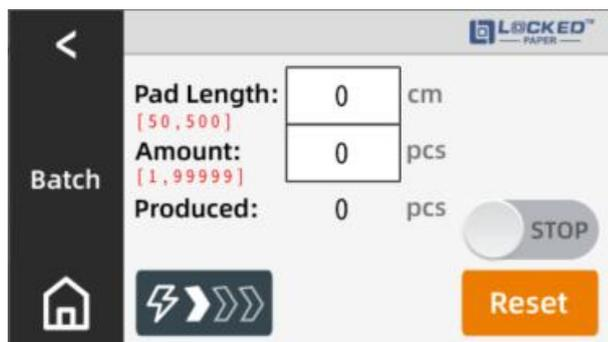

Figure 5.4-1
- 1) Click on the Home page  to enter the Batch mode interface (Figure 5.4-1);